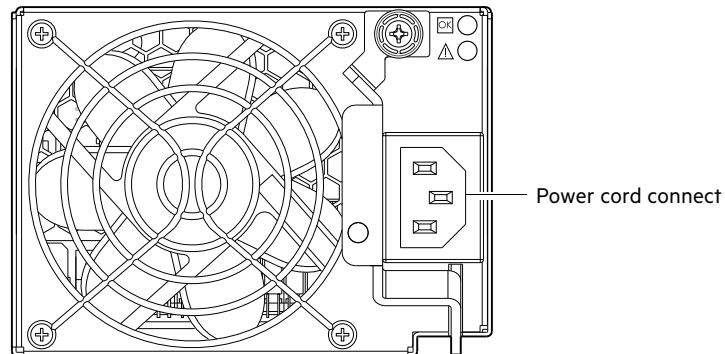

Figure 16 AC power supply
2. Plug the power cord into the power cord connector on the back of the drive enclosure (see Figure 16). Plug the other end of the power cord into the rack power source. Wait several seconds to allow the disks to spin up.
3. Plug the power cord into the power cord connector on the back of the controller enclosure (see Figure 16). Plug the other end of the power cord into the rack power source.